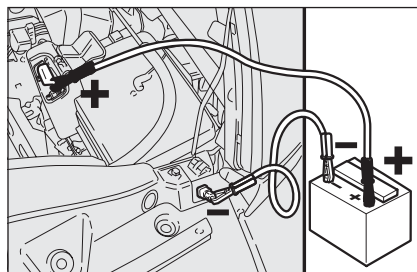

fig. 2
- ☐ connect with a second cable the negative terminal (-) of the auxiliary battery to the ground point as shown in **fig. 2**;